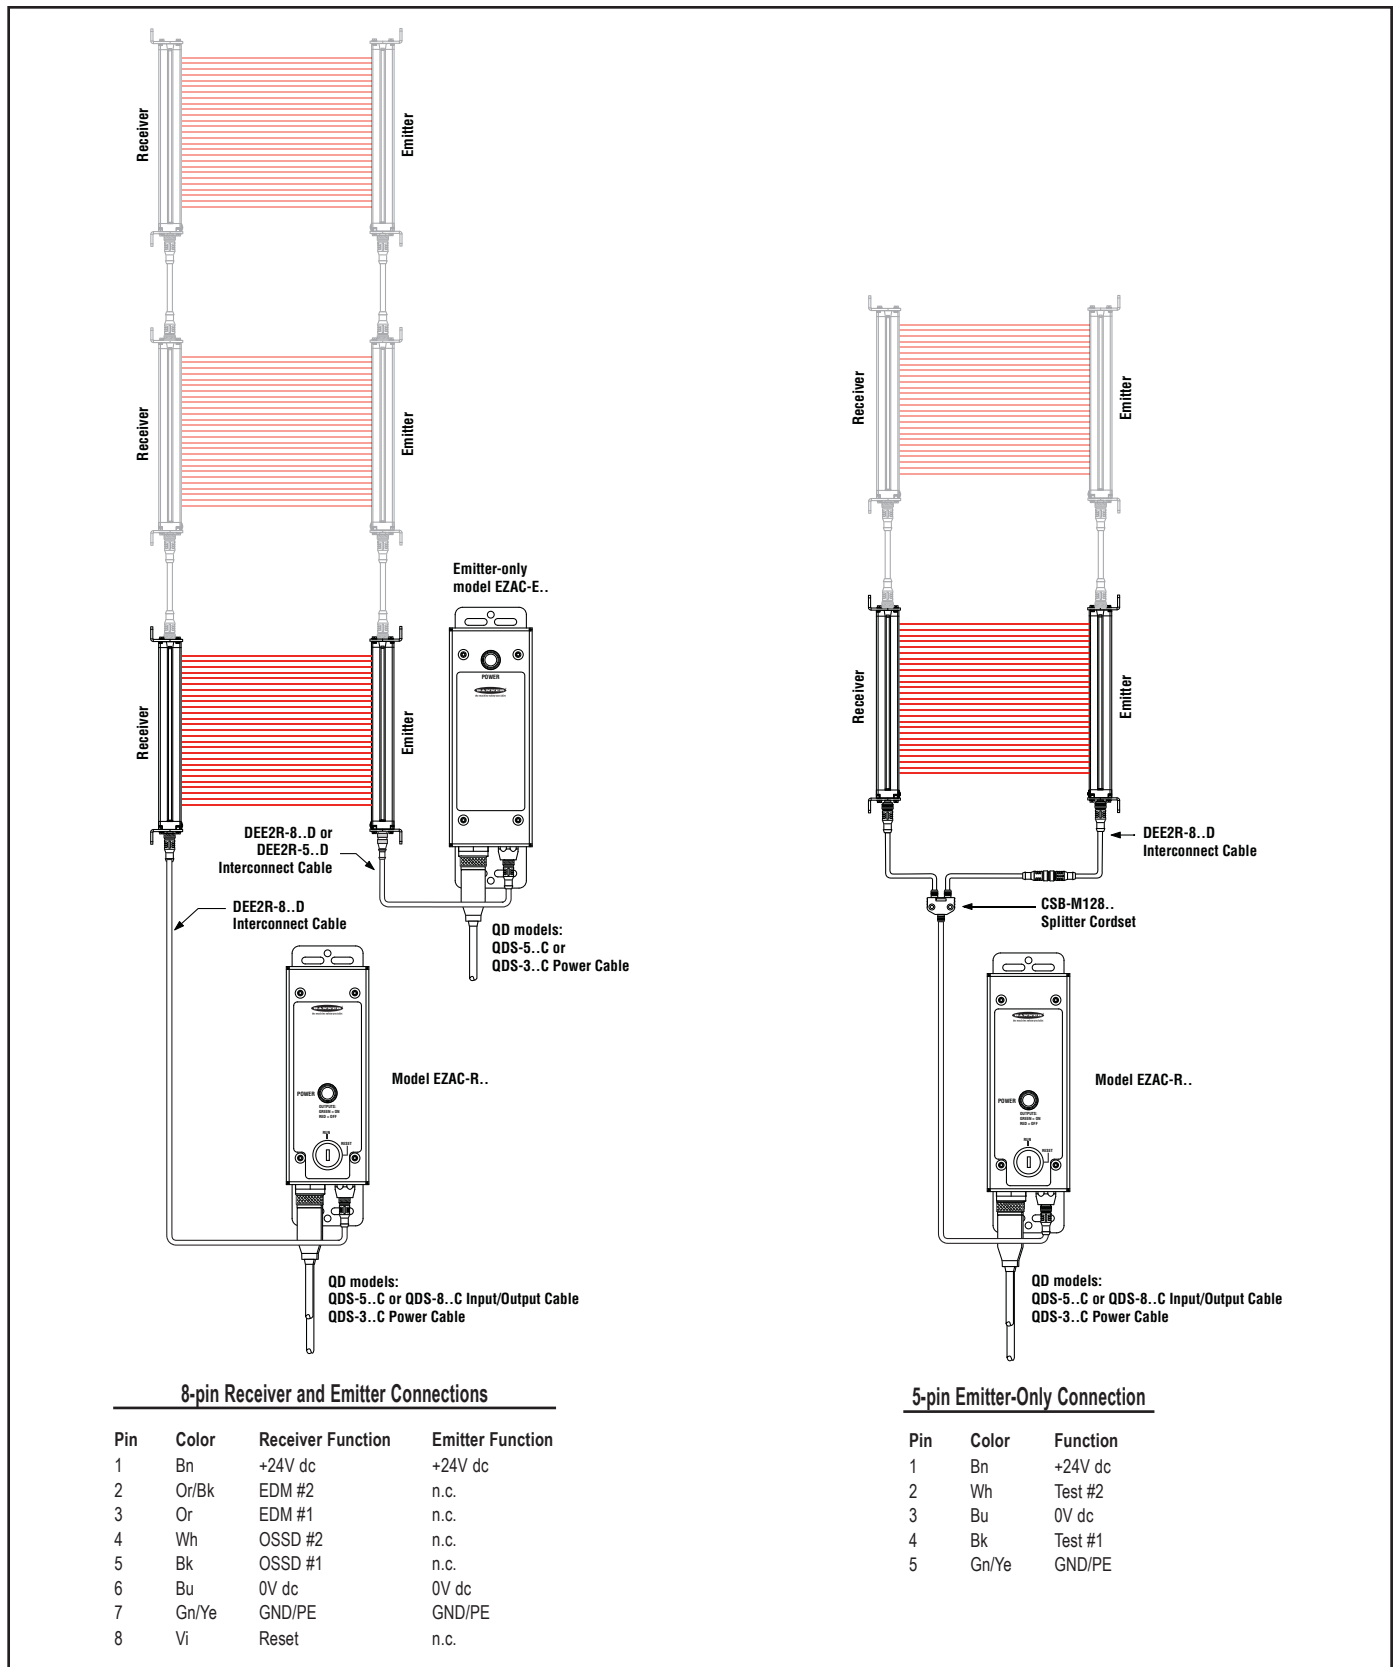

Figure 4. Connection to EZ-SCREEN Emitter and Receiver
The EZ-SCREEN AC Interface Box (EZAC Series) is powered by 100-250V ac. EZAC-R.. models can supply one EZ-SCREEN receiver, a single emitter-receiver pair, or two cascaded emitter-receiver pairs; see Figure 4. Emitter-only models (EZAC-E..) can supply up to four cascaded emitters, and have no output circuitry.
2. Always connect pins 2 and 3 of the receiver/emitter M12/Euro-style QD connection to the monitoring input of the Primary Safeguarding Device that controls it (see Figure 4).